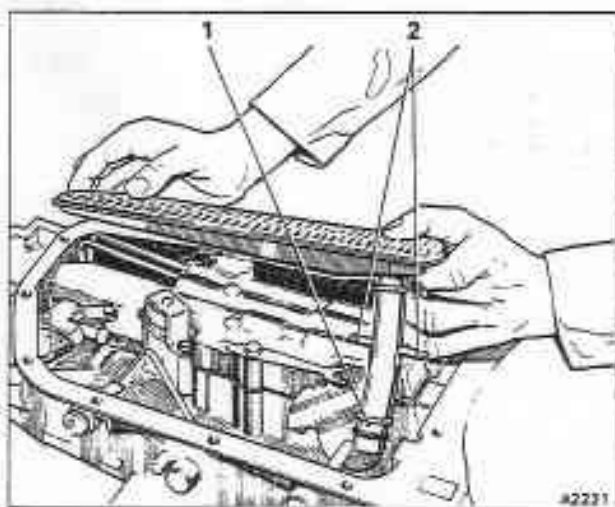

Fig. T12-1 Removing intake pipe and strainer assembly
3. Remove the intake strainer assembly (see fig. T12-1).